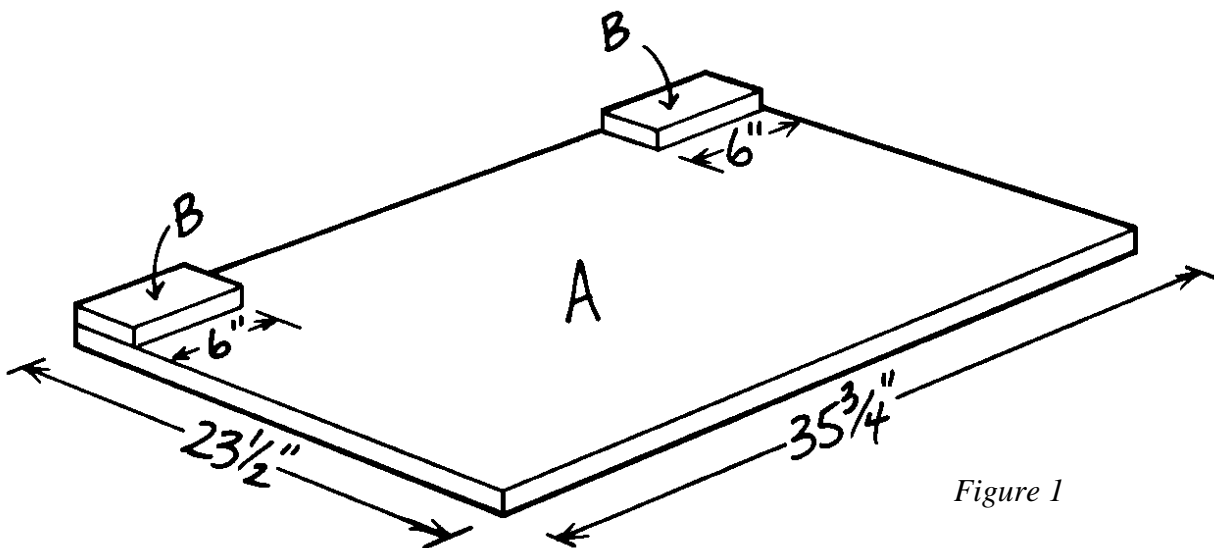

Figure 1
1. Cut one 23-1/2" x 35-3/4" desktop (A) from laminated pine.
2. Cut two 6"-long desktop braces (B) from 1 x 3 pine.
3. Attach one desktop brace (B) to the desktop (A), as shown in *Figure 1*, using glue and two 1-1/4" screws. Note that the ends of the desktop brace (B) and the desktop (A) are flush and that the 6"-long edge of the desktop brace (B) is flush with the 35-3/4"-long edge of the desktop (A).